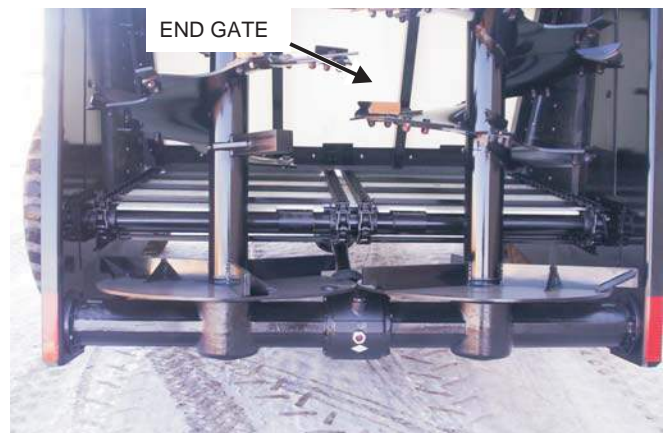

FIGURE 8. HYDRAULIC END GATE, VIEW FROM REAR
1. Check that the end gate is closed, figure 8. When the spreader is parked for loading, shift the tractor to neutral or park and set the brakes. The moisture content of the manure will determine how full the spreader can be loaded so that no manure spills out.
2. Open the hydraulic end gate, figure 8, by applying the tractor hydraulic lever. This can be done while traveling forward to avoid a heavier application at the edge of the field than desired.